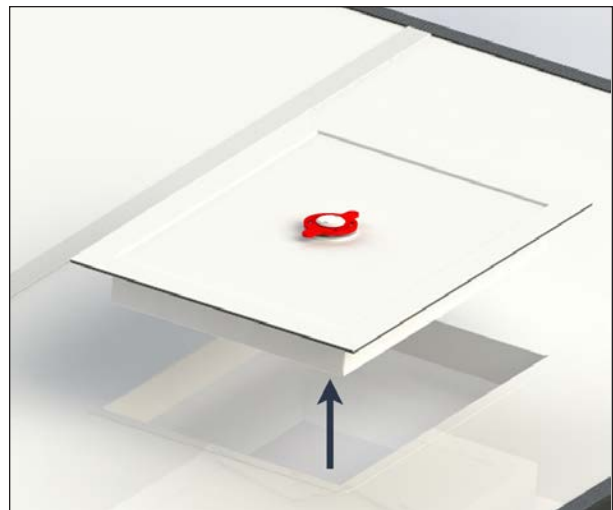

FIGURE 108: REMOVE HATCH
2. Push straight up on the escape hatch and move it to the side, see Figure 108.